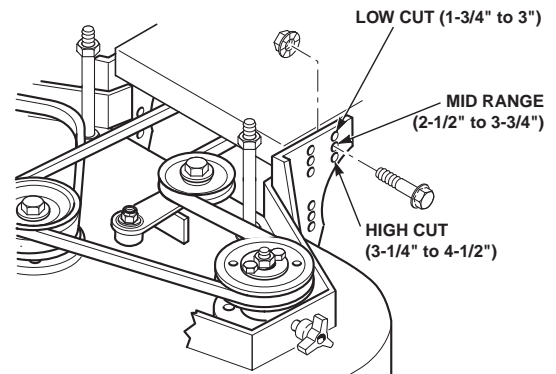

Figure 6-5. Adjusting Cutting Height
Changes to the cutting height can be achieved by repositioning the cutter deck. (This adjustment will also effect the pitch of the deck). There are three available positions. See Figure 6-5.
3. Tighten or loosen the adjusting bolt as needed to achieve the 0.015 inch airgap. See Figure 6-5. Perform this operation at all three inspection windows.